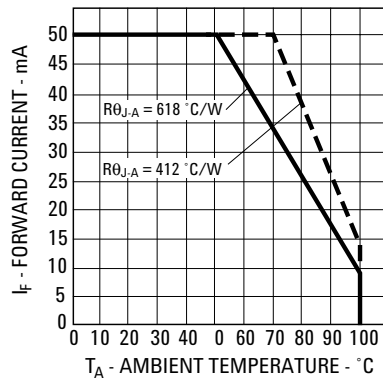

Figure 4. Maximum Forward Current vs. Ambient Temperature. Derating Based on $T_{jMAX} = 110\text{ }^{\circ}\text{C}$.
- Derate linearly as shown in Figure 4.